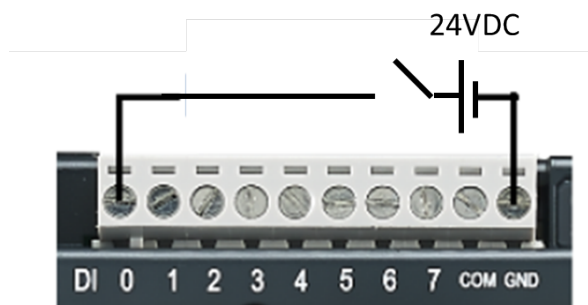

Figure 3.3 Digital Input Wiring
- Use star washers and locknuts for all grounding connections (refer to Figures 3.3/3.4) to ensure reliable contact.